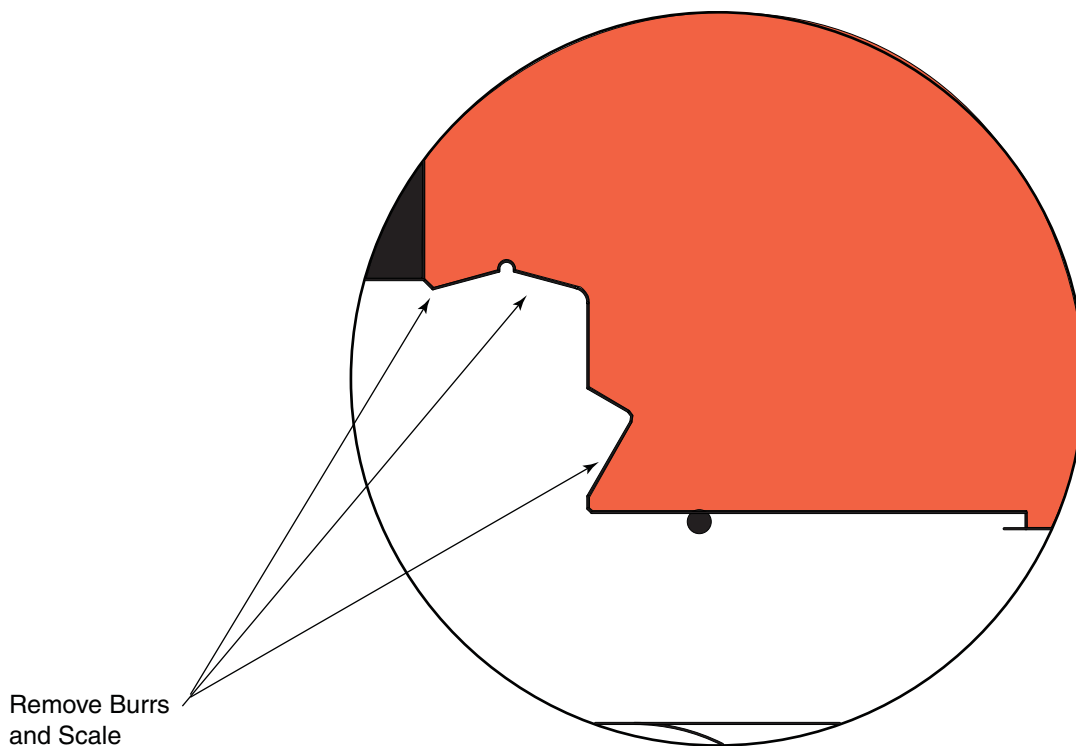

Figure 5-91. Remove Burrs and Scale
5. Thoroughly clean the sealing surface for the top seat. Remove burrs on edges using a flapper wheel (180 to 220 grit) (see Figure 5-91). Remove scale and loose rust. Do not gouge surface.